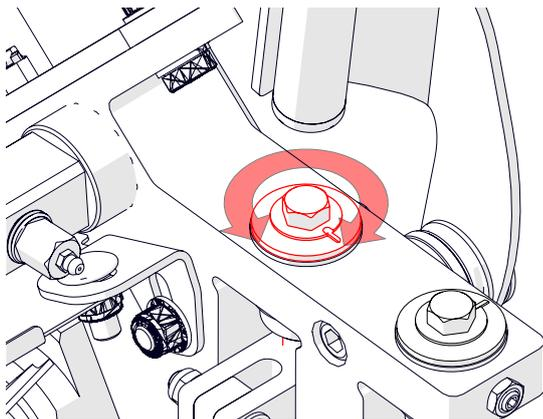

Fig. 7C - Grooming brush height adjustment
6. With the setting bar still in position, locate the grooming brush height adjuster on the same side as being adjusted. Rotate the height adjuster to raise or lower the groomer brush mechanism [15 mm spanner] (Fig. 7C). Stop adjusting when the head is level with the bottom of the bristles.